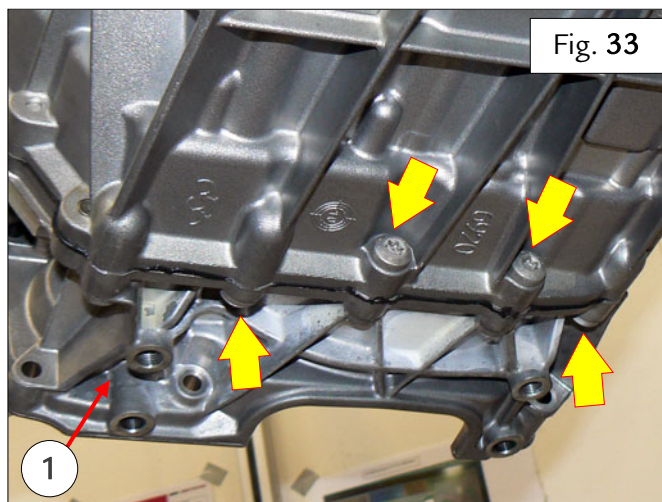

Fig. 33
- Hand-tighten the indicated new screws fastening the connector casing (1) – Fig. 33.